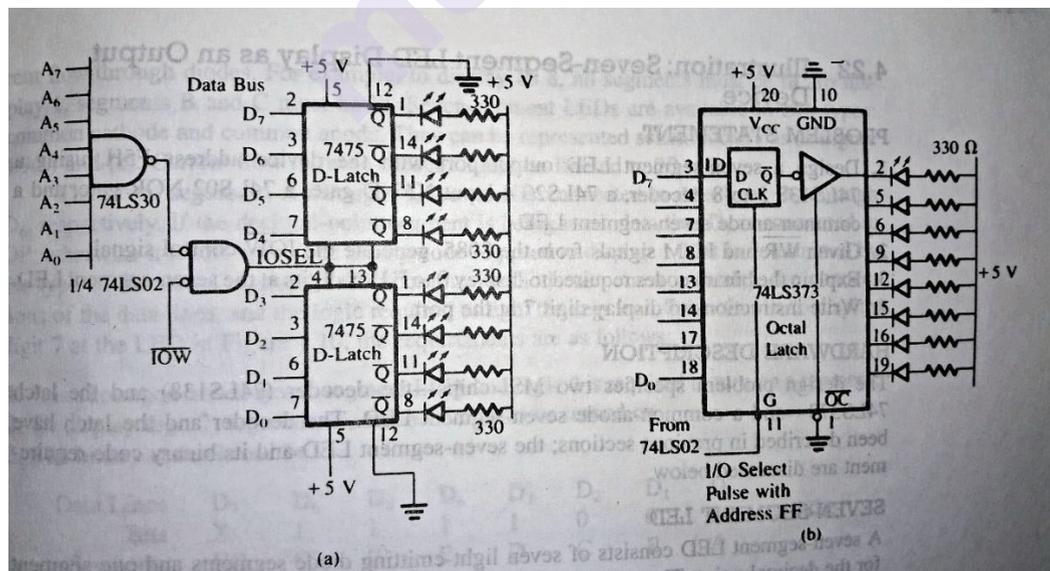

Figure 4.8 :- Interfacing LED Output Port Using the 7475 D-Latch (a) and Using the 74LS373 Octal D-Type Latch (b)
Figure 4.8 uses the 74LS373 octal latch as an interfacing device, and both circuit (a) and (b) are functionally similar. The 74LS373 includes D-latches (flip-flops) followed by tri-state buffers. This device has two control signals: Enable (G) to clock data in the flip-flops and Output Control (OC) to enable the buffers. In this circuit, the 74LS373 is used as a latch; therefore the tri-state buffers are enabled by grounding the OC signal.